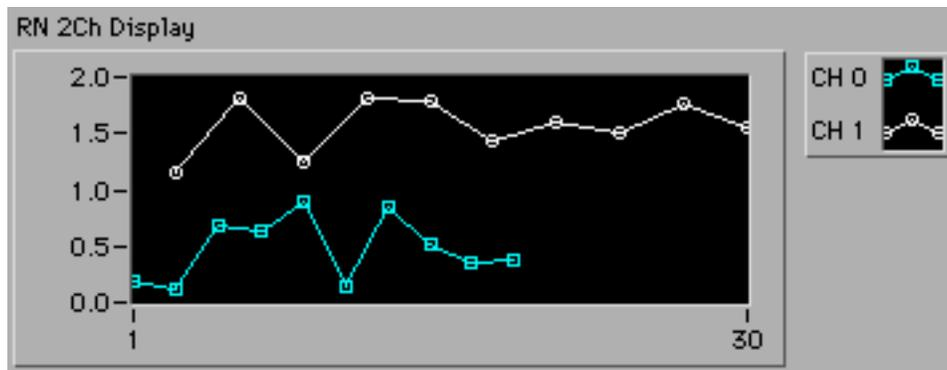

Figure P5.7
- 5.7** Modify **P05_05.vi** such that x -axis indices for each channel are different. The indices are 1, 3, 5, 7, ..., 19 for **CH 0**, and 3, 6, 9, 12, ..., 30 for **CH 1**. All of the other information is identical, and the complete front panel is shown in Figure P5.7. Save the VI as **P05_07.vi**.
- 5.8** Realize **P05_07.vi** using a **XY Graph** in lieu of **Waveform Graph**, and all of the other information is identical. Therefore, the complete front panel should be the same as Figure P5.7. Save the VI as **P05_08.vi**.